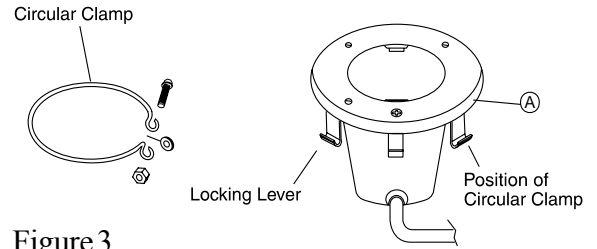

Figure 3.
- With the bent ends of the circular uni-tension clamp pointing down spread the clamp and place it in the "U" recesses of the locking levers. Be sure the bent ends of the clamp are located between the pair of locking levers as shown in Figure 3, location A. Check to see that the clamp is properly engaged with all of the levers.